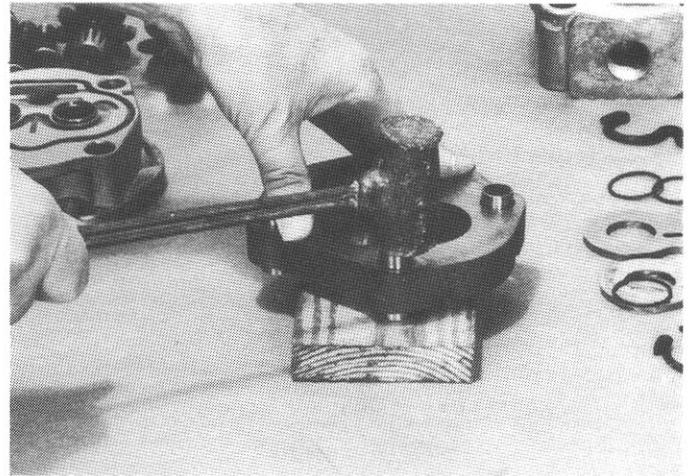

Fig. 14
18. If for any reason gear plate (2) had to be replaced, dowels (9) must be pressed into both sides of replacement gear plate before assembling it to cover plate (1). Dowels can be tapped in with hammer, but it is best to use dowel guide and press. Whichever method is used, make sure they are straight in dowel bores. If press is used, do not apply rapid force on dowels. If hammer is used, do not drive the dowels in aggressively. Tap them lightly until they are against shoulder. (Fig. 14)